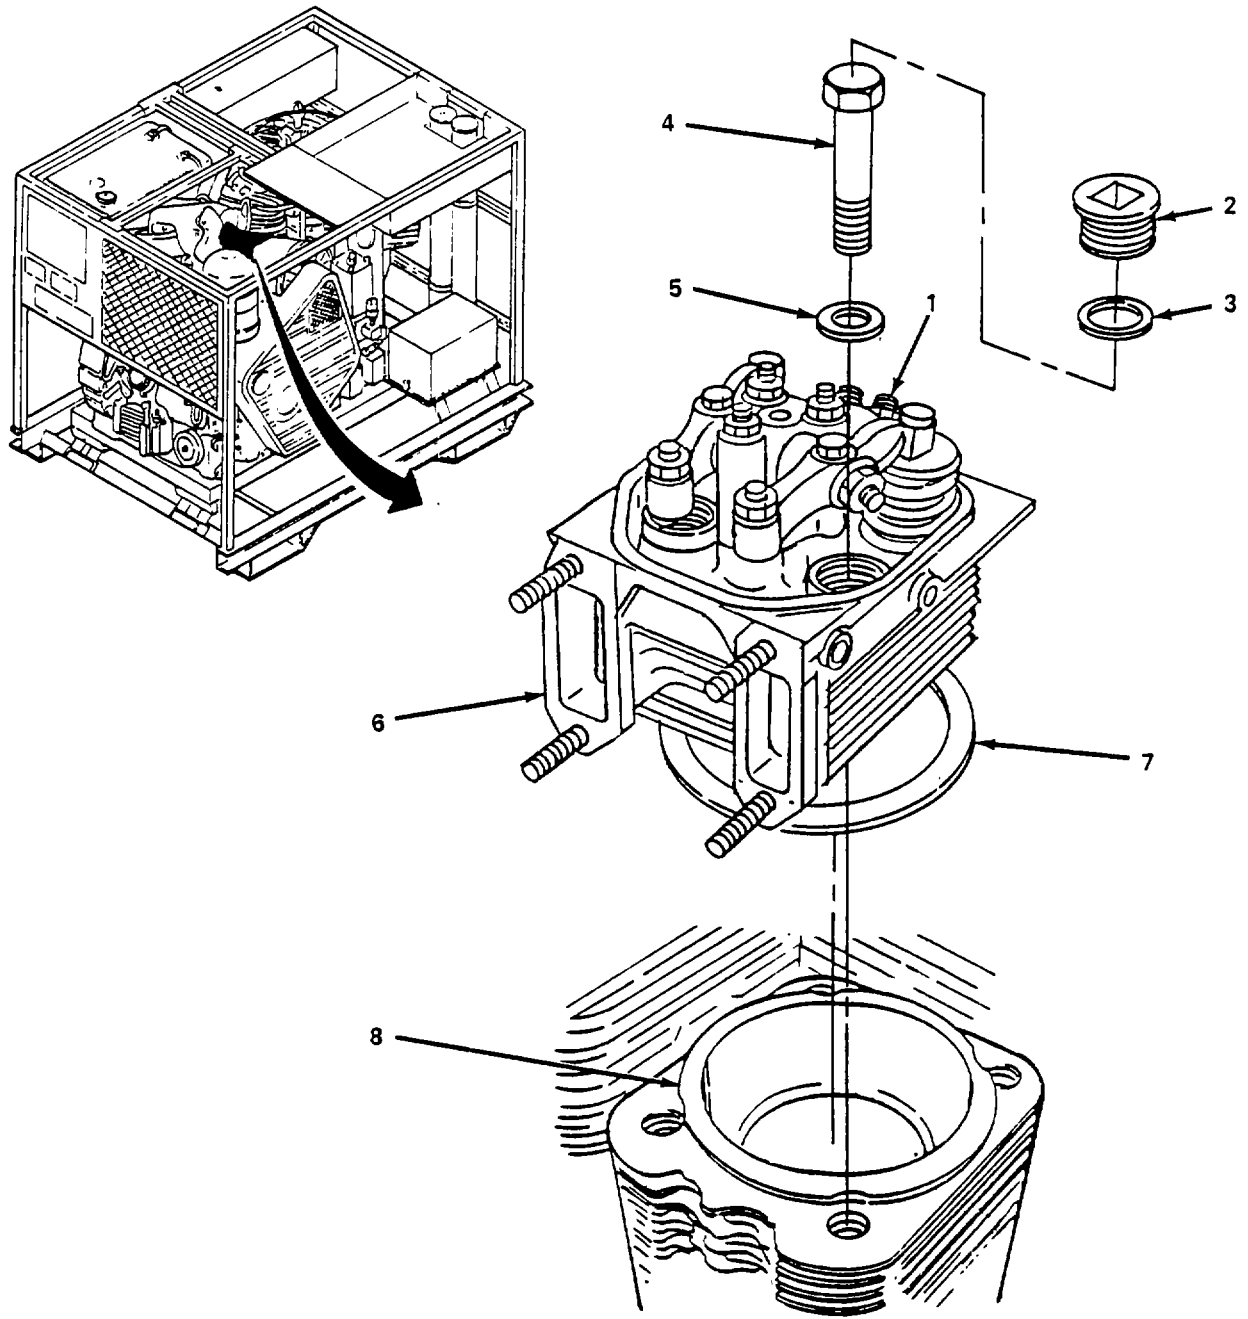

Figure 5-59. Cylinder Head, Replace.
- (4) Preload head bolts to 21 ft. pounds (30 Nm).
- (5) Tighten head bolts (3) through one stage (45°) using socket wrench and torquing device.
- (6) Rotate crankshaft by one revolution (360 degrees).
- (7) Remove head bolts (3) and cylinder head (1). Mark cylinder heads relative to cylinders if both cylinder heads were removed.
- (8) Remove wire from top of piston and measure at the weakest (most compressed) point.
- (9) Piston crown clearance should be .03937 to .04724 inches (1.0 to 1.2 mm).
- (10) If clearance is too large, raise cylinder, and remove shims as needed to obtain proper clearance (para. 5-42).
- (11) If clearance is too small, remove cylinder (refer to para. 5-42), place number of shims required below cylinder and replace cylinder.
b. Replace. (figure 5-59)
- (1) Install cap (1) on fuel injector intakes and plugs in fuel injector pump bore studs where injector lines were removed.
- (2) Place plugs in fuel injector overflow bores where overflow lines were removed.
- (3) Using socket wrench and square-recessed socket, remove two brass screwplugs (2) and gaskets (3).
- (4) Remove four head bolts (4) and washers (5).
- (5) Remove cylinder head (6) and gasket (7).
- (6) Checking/adjust piston crown clearance (para. a. above).
- (7) Install gasket (7) and cylinder head (6) on cylinder (8).
- (8) Install four washers (5) and bolts (4) and slightly tighten.
- (9) Align induction and exhaust flanges of cylinder heads without disturbing alignment of cylinders.
- (10) Preload head bolts to 21 ft. pounds (30 Nm).